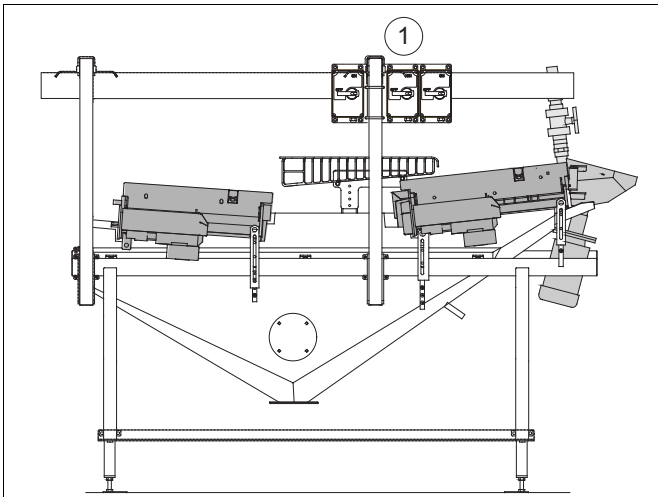
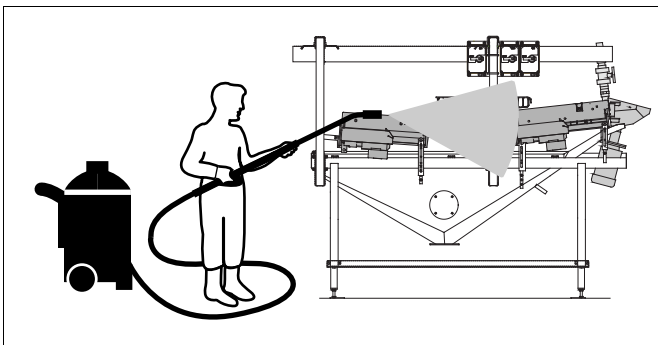

fig. 40 On/off switches
fig. 41 Clean
3. Clean the whole machine thoroughly, see also the User's Manual "Cleaning and Disinfecting". See fig. 40 and fig. 41.